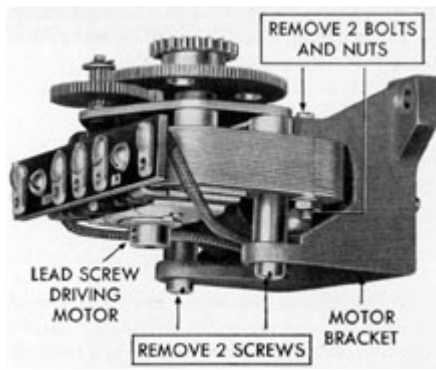

Figure 5-49. Replacing lead screw drive motor, Step 1.
**5M5. Replacing the lead screw drive motor.** (See Figure 5-49.) Remove the lead screw drive motor (see Section 5M4). Remove the two fillister head screws that position the
shown in Figure 5-51 in position in the motor mounting bracket. Install the two fillister head screws that position the motor in its bracket. Install the two screws, lock washers, and nuts that secure the motor (Figure 5-49).